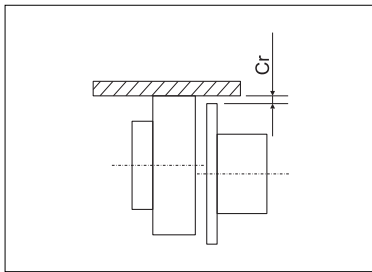
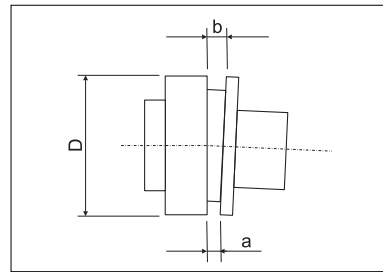

FIG. 27 (Alignment and centering of the coupling joint)
FIG. 28 (Alignment and centering of the coupling joint)
5.6.5.1- Alignment and centering of the coupling joint (FIG. 27, FIG. 28 and TAB. 15)
RADIAL CENTERING (FIG. 27)
ANGULAR CENTERING (FIG. 28)